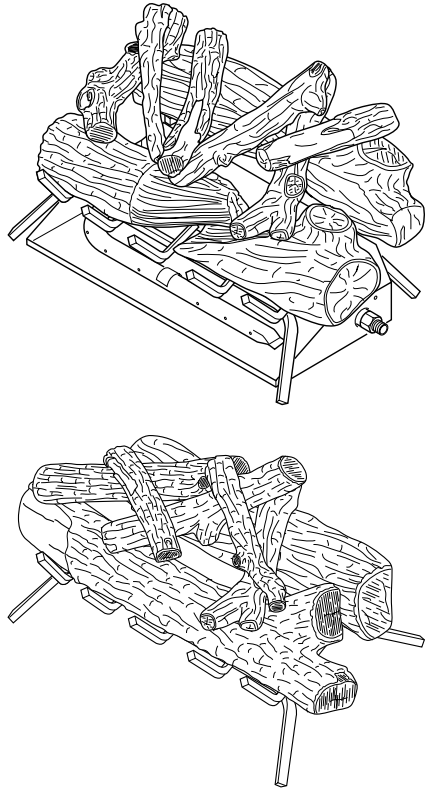

Figure 17 - Placement of Top Logs
5. Place smaller top logs onto bottom logs (see Figure 17). Leave as much open space between logs as possible to minimize flame impingement and sooting.